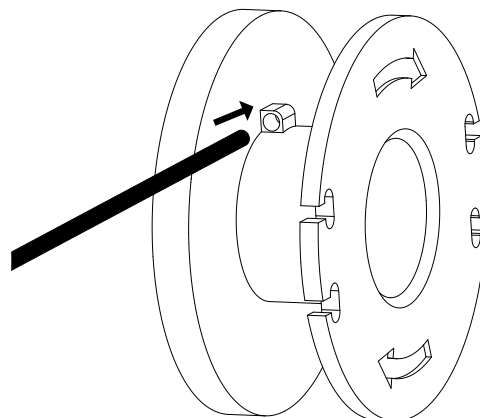

Fig. 8
4. Insert the line into the hole on the spool (Fig. 8).